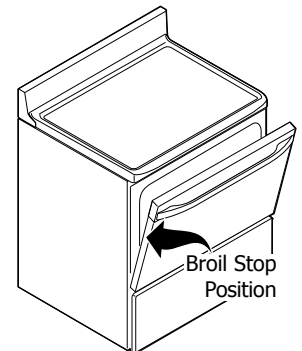

Fig. 5
4. Place the broiler pan on the oven rack. **Leave the oven door open at the broil stop position when broiling** (See Fig. 5).